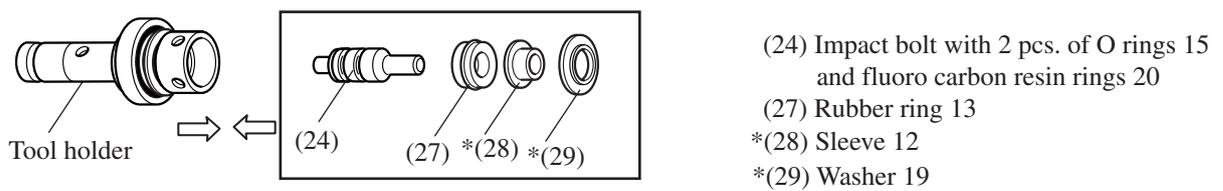

Fig. 27
(2) Assemble the following parts to tool holder as illustrated in Fig. 27.